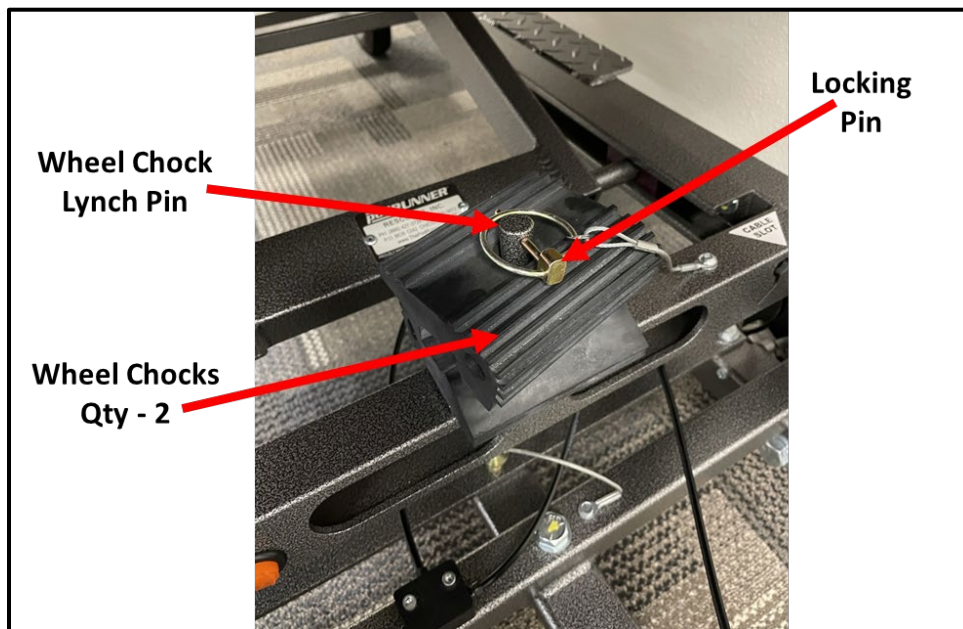

Figure 3. Wheel Chocks
3. Examine the rubber wheel chocks and verify that they are properly secured to the lower frame assembly. Refer to Figure 3. Confirm that the installation meets each of the following requirements.